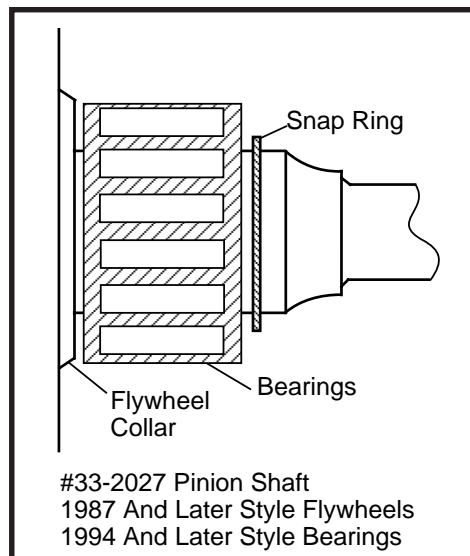

Figure 9
3. 1987 to 1989 stock flywheels or S&S SL or BL flywheels for 1981 and later, and S&S pinion shaft #33-2027 - No thrust washers are normally used. Typical arrangement - Bearing cage against flywheel, and snap ring directly against bearing cage. **See Figure 9.**